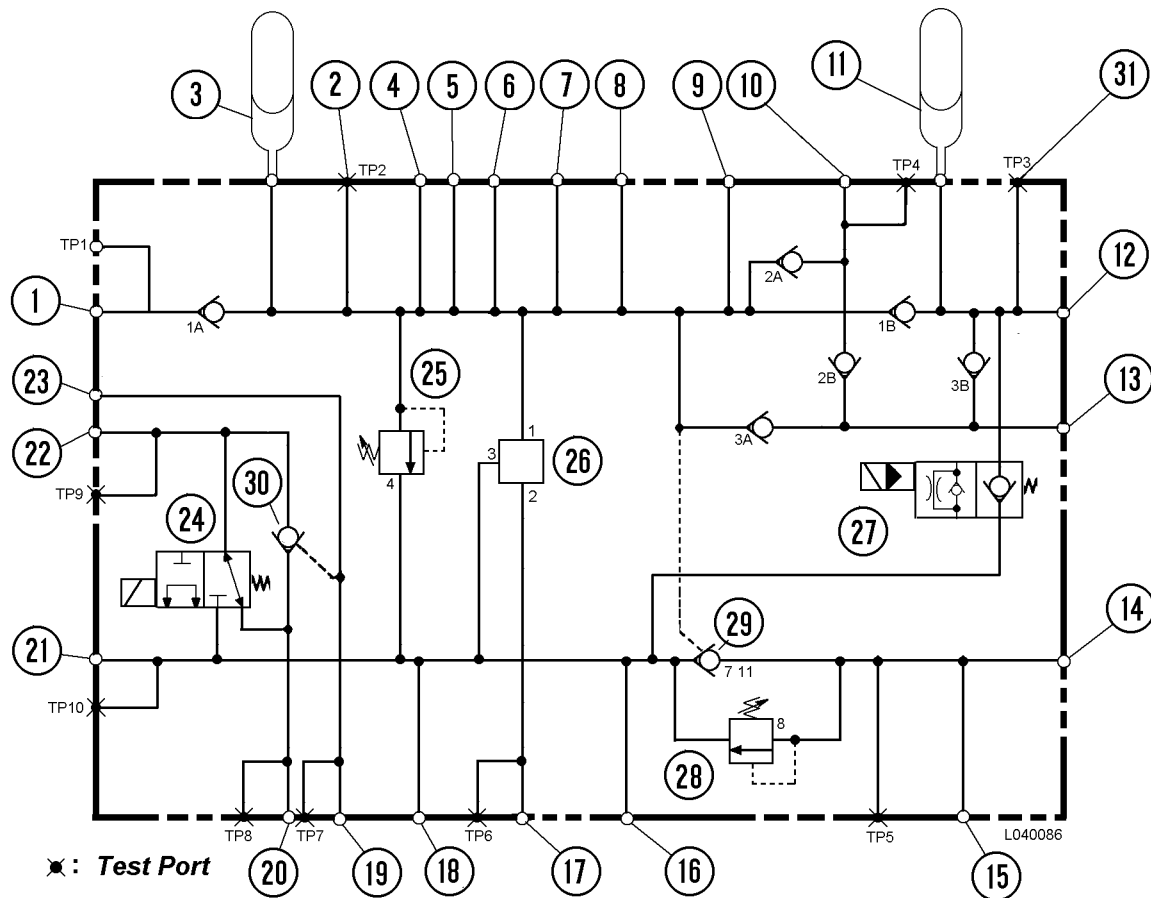

FIGURE 4-5. BLEEDDOWN MANIFOLD SCHEMATIC
Pilot operated check valve (30, Figure 4-5) is opened by power down pilot pressure line (19) to allow oil in the raise port to bypass hoist up limit solenoid (24) for the initial power down operation while the solenoid is activated by the hoist limit switch.